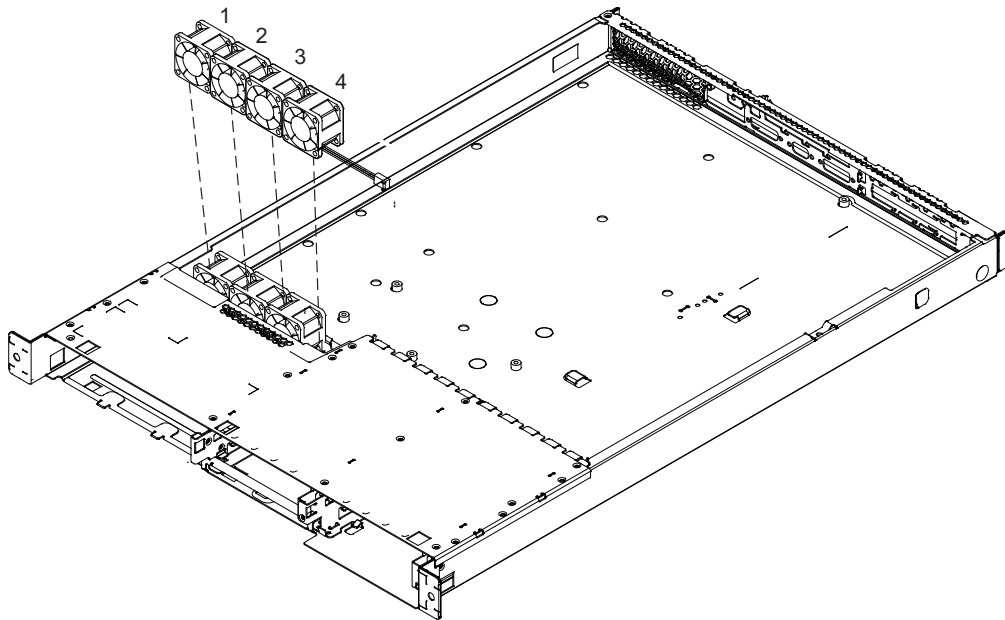

Figure 88. Replacing a microprocessor fan
1. Push the fan downward into the retaining clip. See Figure 88 on page 258.
Note: The fans are numbered from one to four, from left to right. See Figure 88.